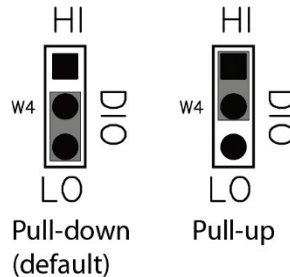

Figure 7. Pull-up/down jumper configuration
- Configure the **DIO** jumper for pull-up or pull-down, as shown in Figure 7.